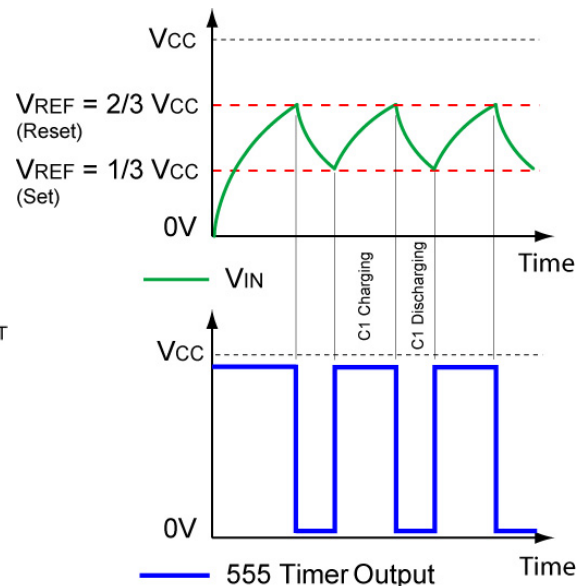

Figure 3 – Voltage at C1 and 555 Timer Output
- **Detailed Presentation of 555 Timer Astable Operation (Figures 3 – 12):**